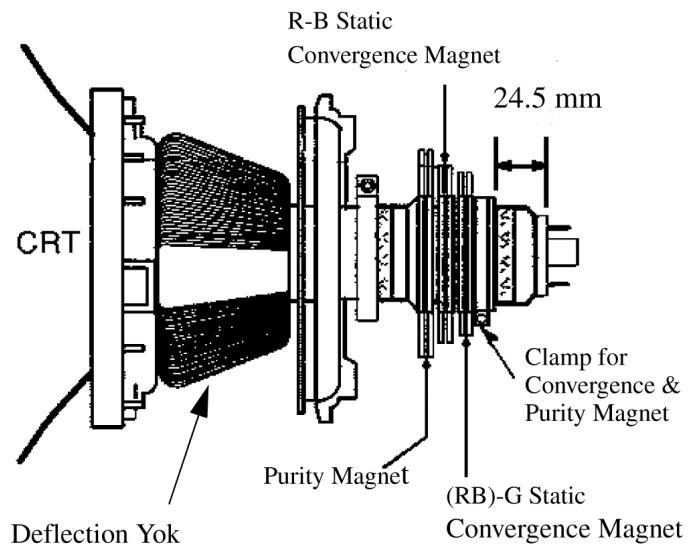

Fig. 24
7. Loosen the clamp screw for the deflection yoke A in Fig. 24 and move the deflection yoke as close to the purity magnet as possible.
11. Tighten the clamp screw A in Fig. 24.
7. Fix the deflection yoke by reinserting the DY wedges. Refer to Fig. 24.